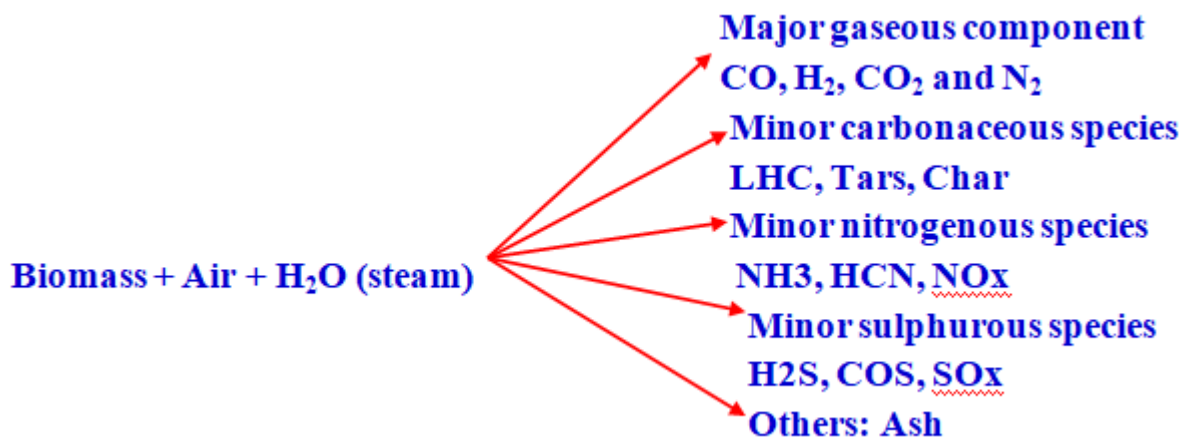

Figure-1
- Overall reactions during biomass gasification may be shown by the following **Figure-1**: